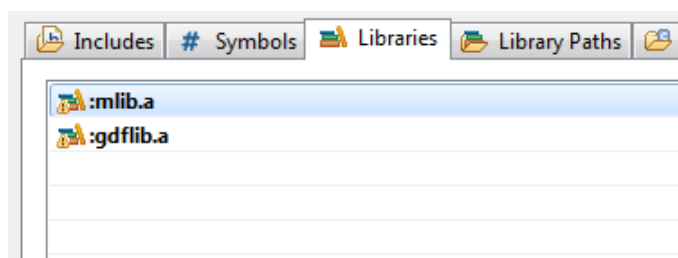

Figure 1-20. Libraries
9. After adding the library paths, add the library files. Click the Libraries tab. See Figure 1-20.
14. Click OK, and you will see the libraries added in the list. See Figure 1-20.